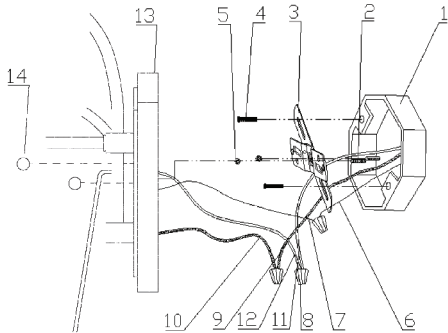

Figure 1
- 3 Attach the #8-32 FIXTURE MOUNTING SCREWS(2) to the MOUNTING BRACKET(3).
- 4 Place the #8-32 HEX NUTS(5) onto the #8-32 FIXTURE MOUNTING SCREWS(2).
*Do not tighten the #8-32 HEX NUTS(5) at this time.*
- 6 Use the included MOUNTING SCREWS(4) to mount MOUNTING BRACKET(3) to the OUTLET BOX (1).
- 7 Make the following wire connections (Fig.1), using the provided WIRE NUTS(8):